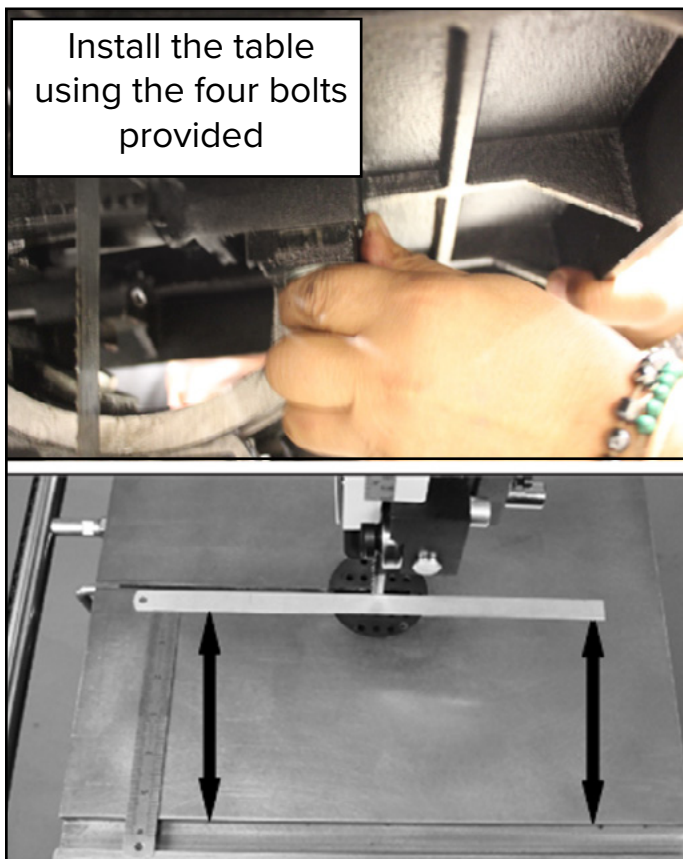

Figure 5: Installing and aligning the worktable.
- Ensure that the table's miter gauge slot is parallel to the side of the saw blade. This alignment is crucial for achieving accurate cuts see figure 5.
- Measure the distance from one end of the ruler to the miter gauge slot figure 5.